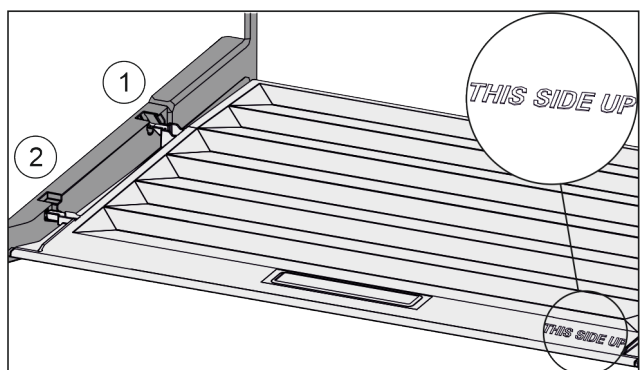

Fig. 114
- ▶ Insert the lip of the cover over the opening of the rear bracket *Fig. 114 (1)* and click into place *Fig. 114 (2)*.